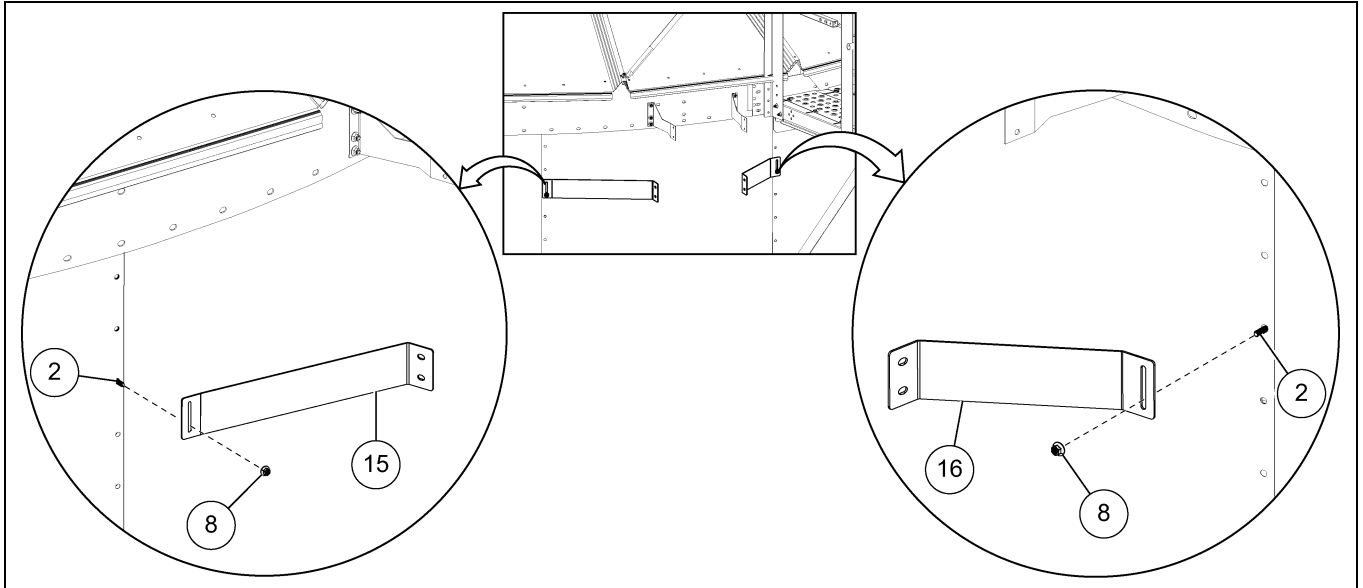

Figure 7B Installing the Ladder Brace Brackets
- Install the slotted end of the left ladder brace bracket (15) and right ladder brace bracket (16) to the vertical channels using 5/16" x 1" flange bolts (2) and 5/16" flange nuts (8). (See Figure 7B.)